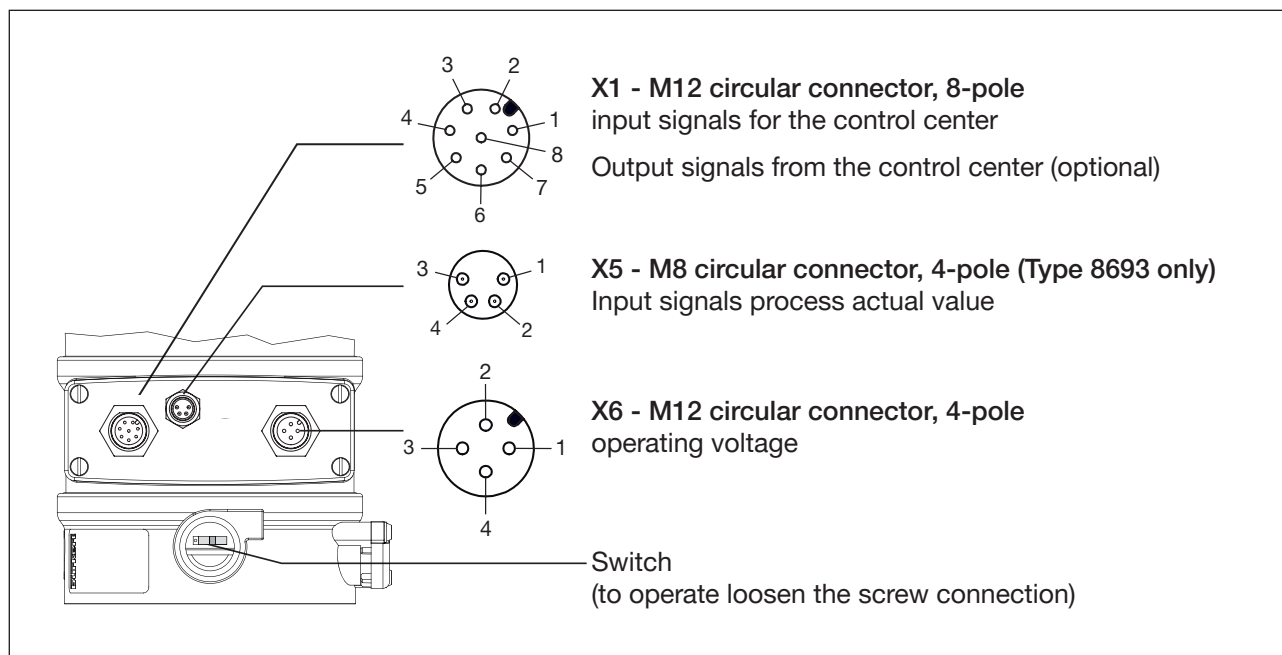

Figure 28: Electrical connection with 24 V DC circular plug-in connector
** Position of the switch, see “Figure 28: Electrical connection with 24 V DC circular plug-in connector” .